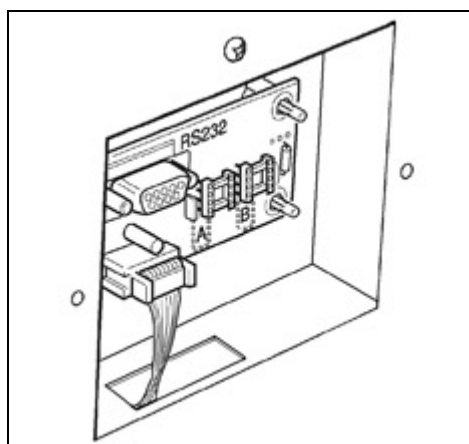

Fig. 3
2.4 CONNECTEUR TYPE DB9 (RS 232) (Fig. .3)